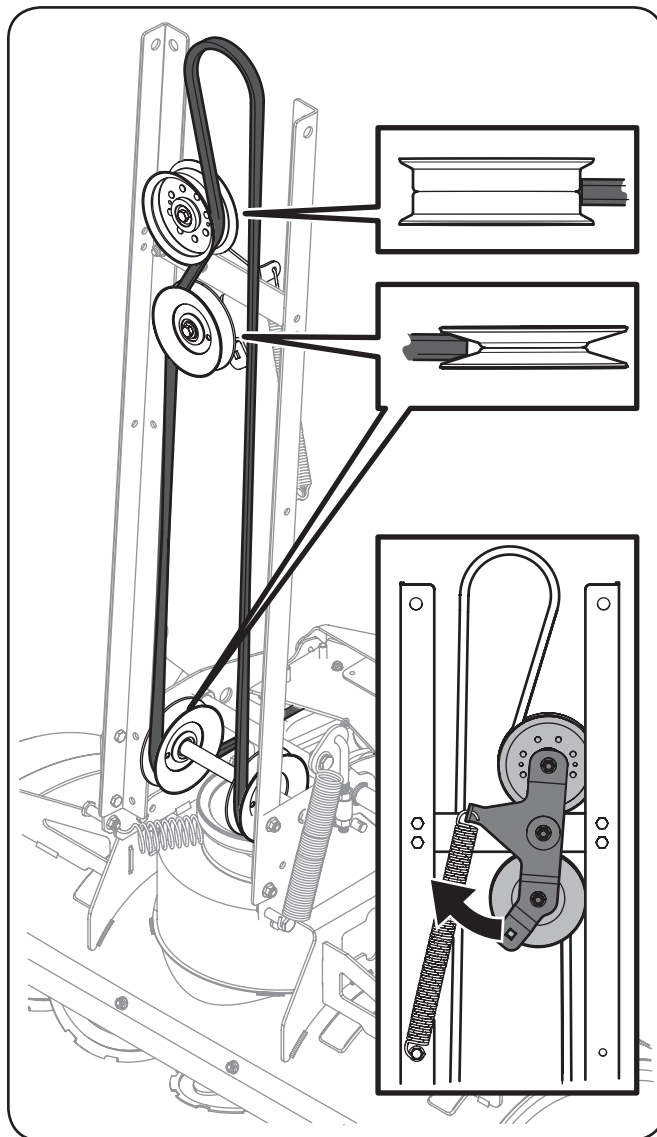

Figure 3-14
- Route the auger assembly's belt around the rail assembly's idler pulleys as shown in Figure 3-14.